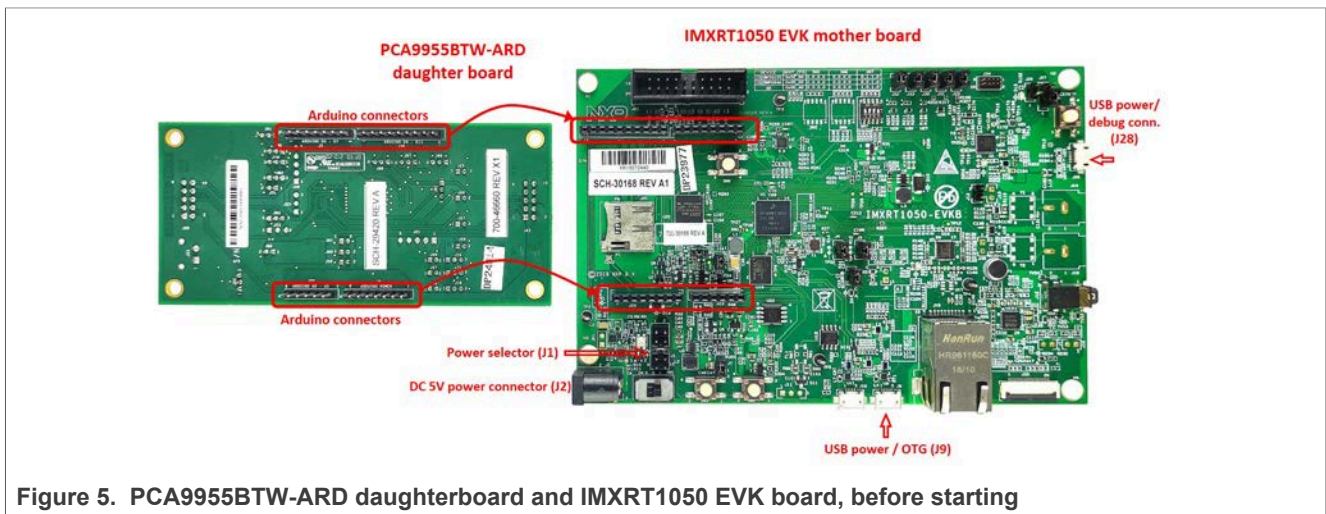
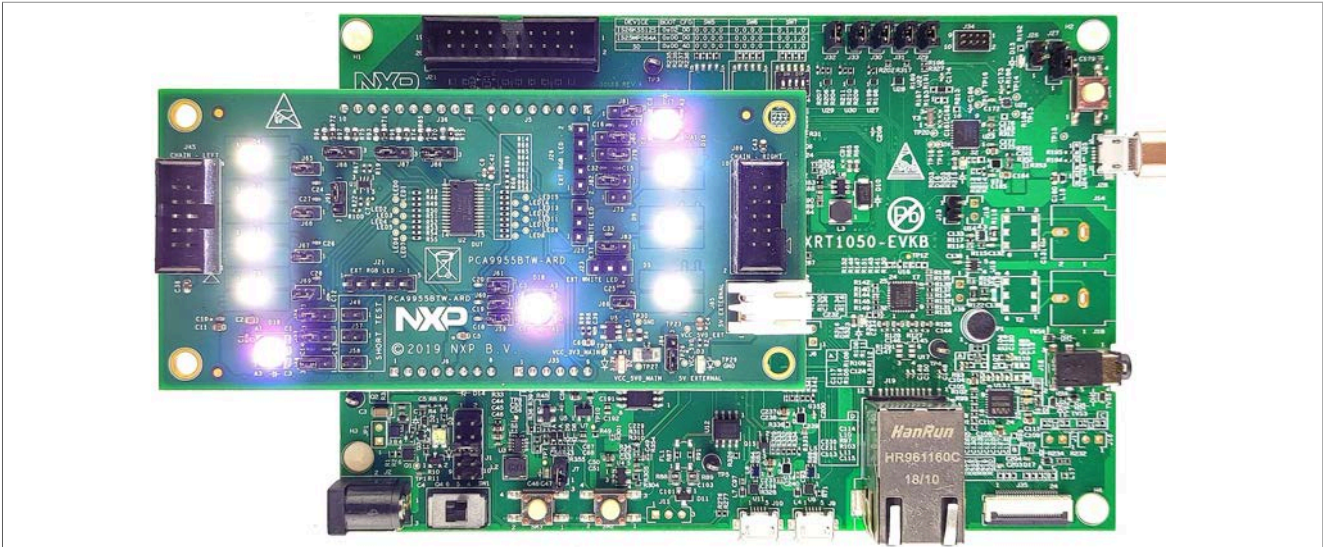

Figure 5. PCA9955BTW-ARD daughterboard and IMXRT1050 EVK board, before starting
Figure 6. The assembly PCA9955BTW-ARD daughterboard / IMXR1050 EVK board operation
Figure 5 shows the required hardware for operation of the PCA9955BTW-ARD daughterboard with IMXRT1050 EVK. The following items are necessary:
From J1 on the EVK board (see Figure 5) the user can select the power configuration for the motherboard. For further details, see the i.MX RT1050 Processor Reference Manual.
2. Insert the PCA9955BTW-ARD daughterboard on the Arduino connector of the EVK (see Figure 5 and Figure 6).
Figure 6 shows the boards during the operation.